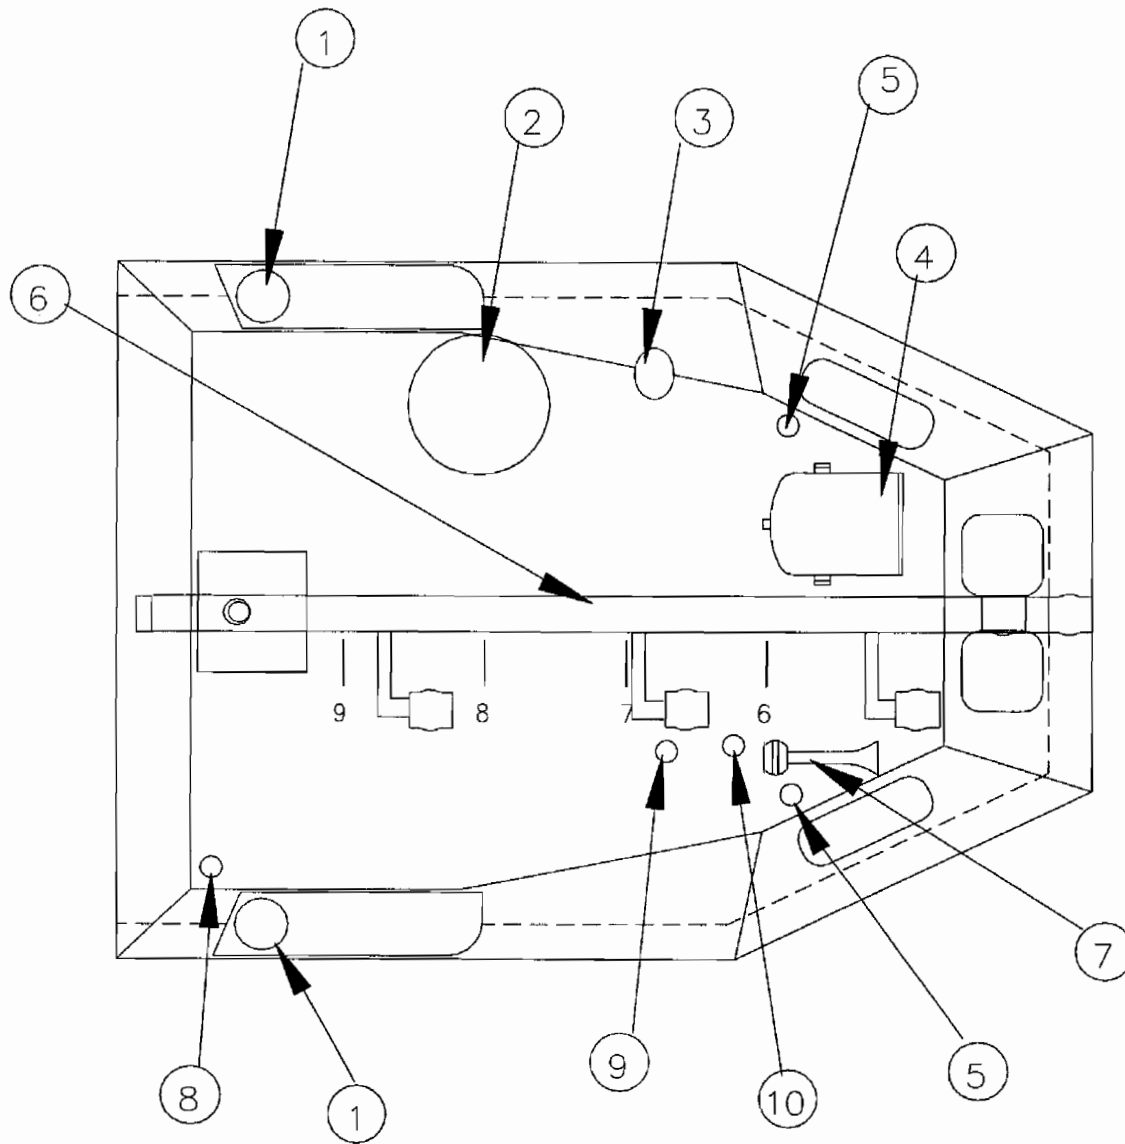
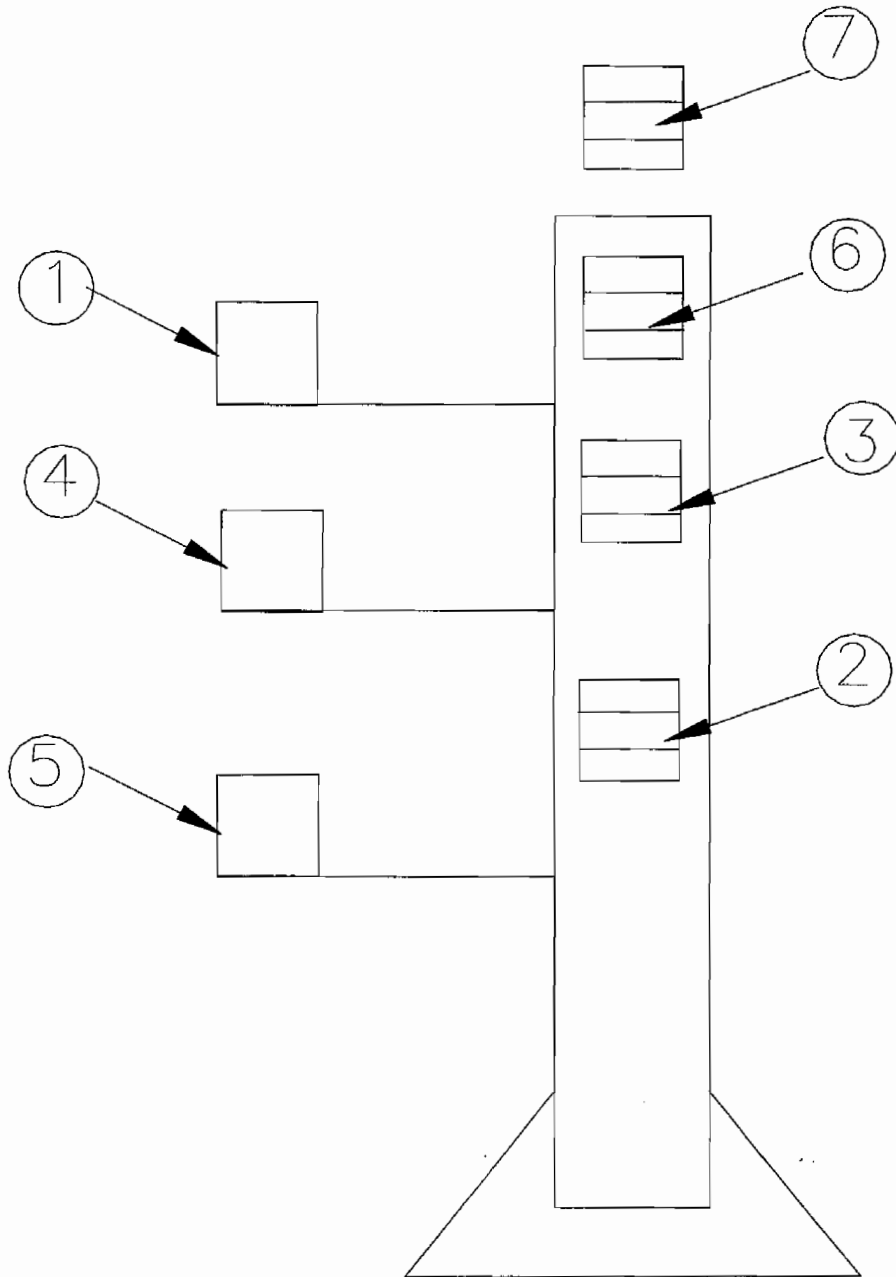

Figure 1-2. Pilot House Overhead
Figure 1-3. Forward Mast
- (1) Pilot House Overhead. Features of the Pilot House overhead are depicted in Figure 1-2. Note that in this figure and others in this section, call-outs are keyed to the text with callout numbers in parenthesis.
- (a) Searchlight. The searchlight (4) is located between Frames 5 and 6, port of centerline.
- (b) Horn. A horn (7) is located between Frames 5 and 6, starboard of centerline with a white indicating light (10).
- (c) Running Lights. Running lights (1) are located at Frame 9, one each port and starboard outboard.
- (d) Forward Mast. A collapsible mast (6) is located centerline at Frame 10. The mast can be leaned forward for restricted clearance areas and for maintenance purposes. Figure 1-3 illustrates the forward mast. The mast contains the following:
- (e) Radar Scanner. The radar scanner (2) (Raytheon Radome Scanner) is located at Frame 8, port outboard.
- (f) Loudhailer Horn. A United Marine Model UM-HSWR loudhailer horn (3) is located at Frame 7 on the port side.
- (g) Antennas. Antennas (5) for the VHF radios are located one each port and starboard. An antenna for the singgars radio (8) is located aft on the starboard side. An antenna (9) for the GPS is located on the starboard side just aft of the horn indicating light.